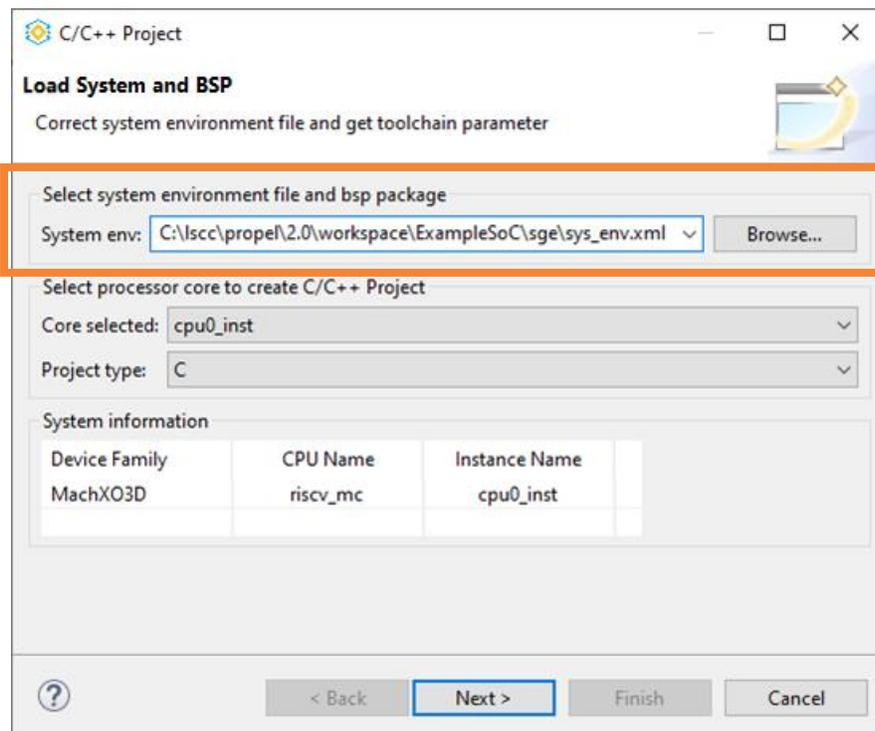

Figure 4.8. Load System and BSP Page
The C/C++ Project wizard opens with **Load System and BSP** page (Figure 4.8).
4. Select the system environment file just generated (Figure 4.8.). Click **Next**.